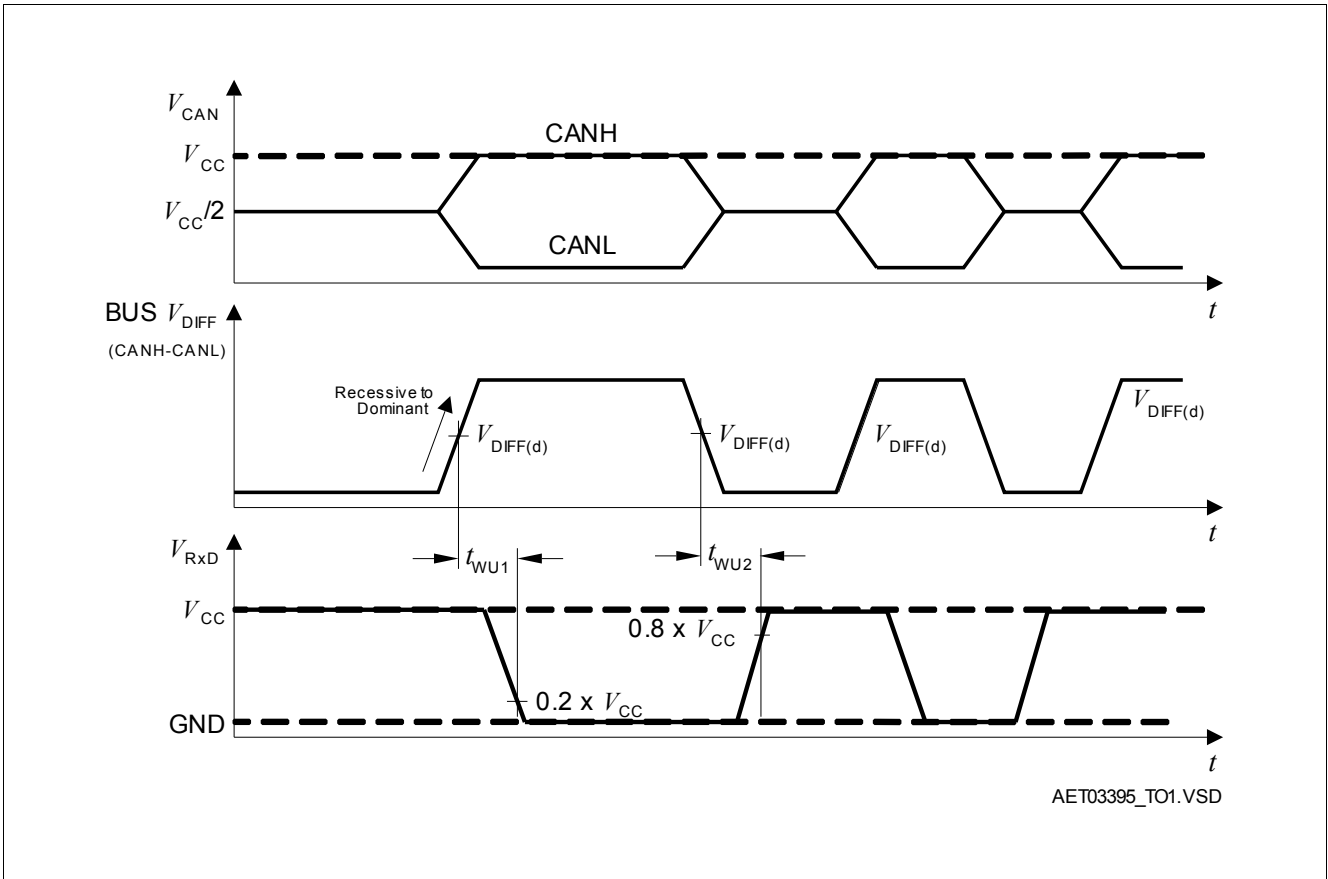

Figure 6 Wake-up behavior
1) Signal at RxD changes corresponding to the bus signal during stand by mode. See Figure 6
During standby mode, a dominant CAN message on the bus longer than the filtering time $t > t_{WU1}$, leads to the activation of the wake-up. The wake-up during standby mode is signaled with the RxD output pin. A dominant signal longer $t > t_{WU1}$ on the CAN bus switches the RxD level to LOW, with a following recessive signal on the CAN bus longer $t > t_{WU2}$ the RxD level is switched to high, see **Figure 6**.